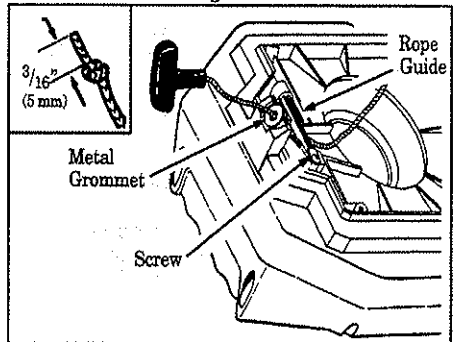

Figure 17
9. Insert one end of the rope through the handle and secure with a knot. Leave 3/16" (5 mm) pigtail behind the knot. Figure 17 (Inset).
10. Insert the other end of the rope through the metal grommet, then under the rope guide. Figure 17.